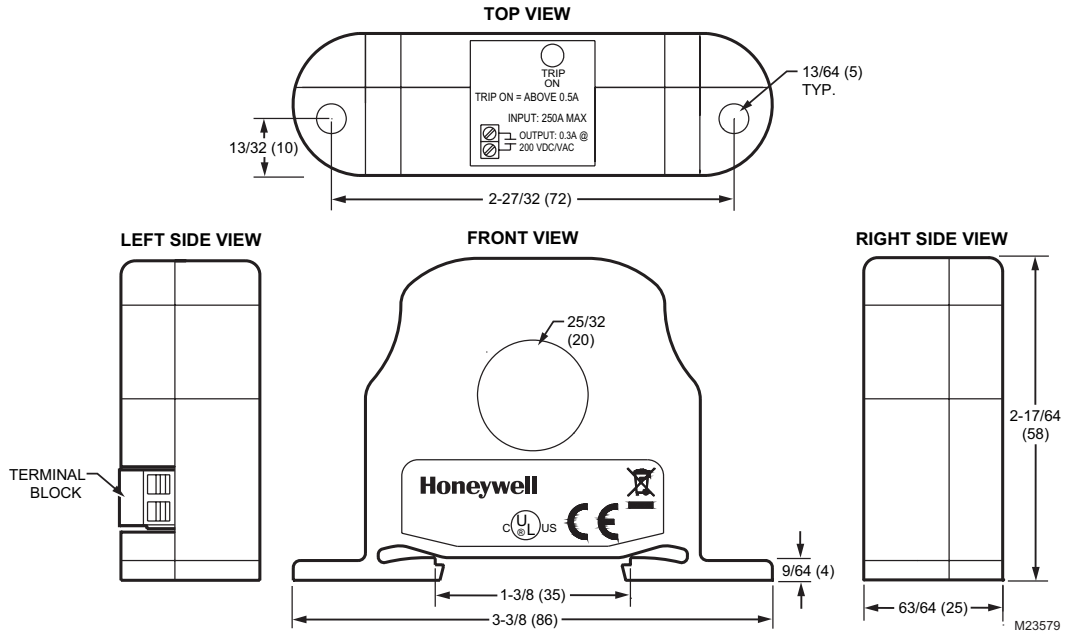

Fig. 1. CSS-O,C Current Switch Dimensions in inches (mm).
**Dimensions:** See Figures 1 and 2.